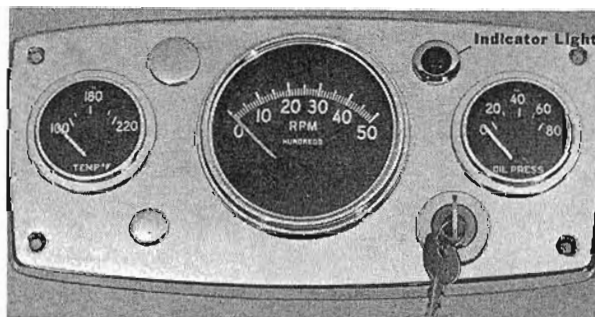

Figure 1
1. Instrument Panels Which Have Indicator Light (Figure 1)